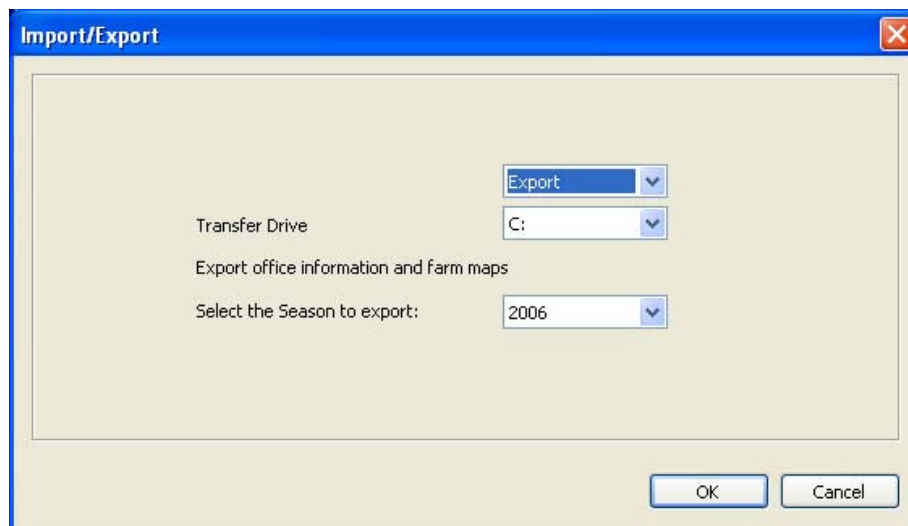

Figure 6-1: Import/Export window
2. In the Import/Export window (Figure 6-1 above) choose **Import** from the top dropdown list